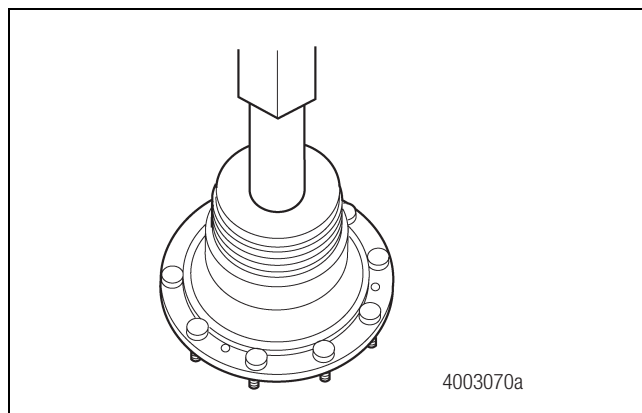

Figure 3.36
2. Lubricate the hub bearing with GL-5, SAE 80W/90 gear oil before assembly. Figure 3.36.